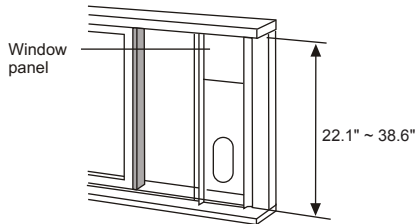

Fig.15
2. Attach the window slider kit to the window sill. Adjust the length of the window slider kit according to the width of window, shorten and adjust the window kit if the width of window is less than 27 inches. Open the window sash and place the window slider kit on the window sill. See Fig.15.